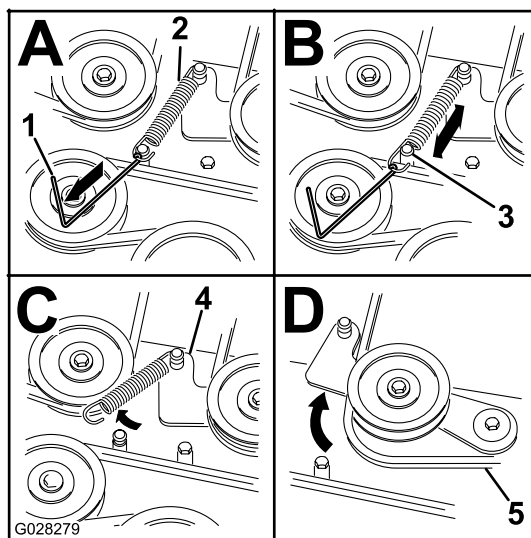

Figure 67
7. Using a spring removal tool, (Toro Part No. 92-5771), remove the idler spring from the deck post to remove tension on the idler pulley (Figure 67).
10. Install the new belt around the mower pulleys and the clutch pulley under the engine (Figure 67).
11. Using a spring-removal tool, (Toro Part No. 92-5771), install the idler spring over the deck post and placing tension on the idler pulley and mower belt (Figure 67).